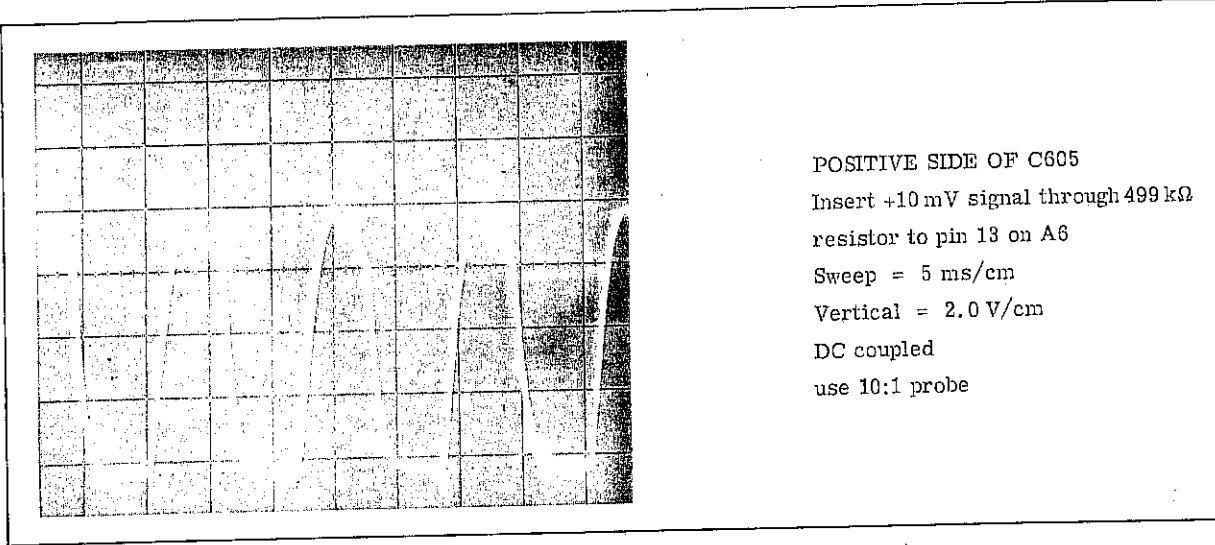

Figure 5-7. Input to Demodulator (feedback loop open)
③	Investigate meter (M1), R5, and R6 for opens.	PASSES: Proceed to ⑤ FAILS: Proceed to ⑫
④	Remove the input to 3400A. Unsolder red lead from pin 13 (A6) and insert a +10 mV dc signal from 738BR through a 499 kΩ resistor (-hp- Part No. 0757-0327) to pin 13. Measure ac signal at positive side of C605. Refer to Figure 5-7 for waveform.